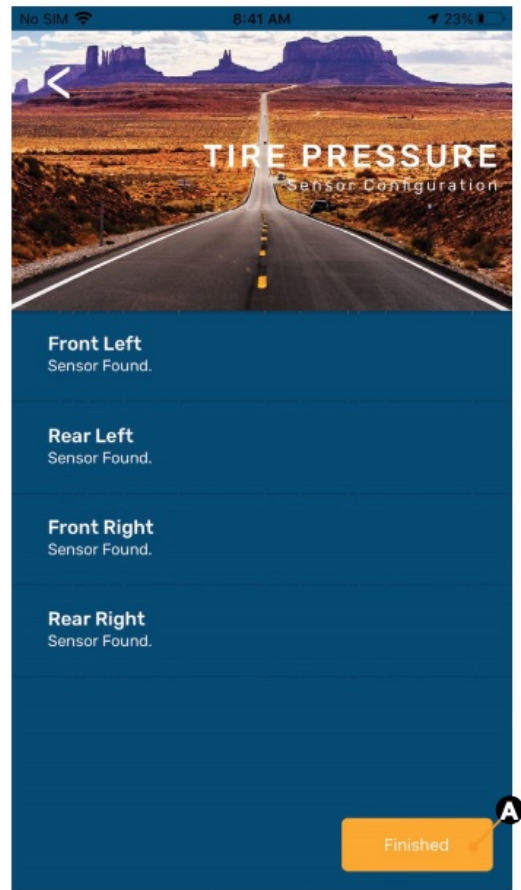

Fig.15
3. Repeat steps 2B, 2C and 2D until all sensors are learned (**Fig.15**).